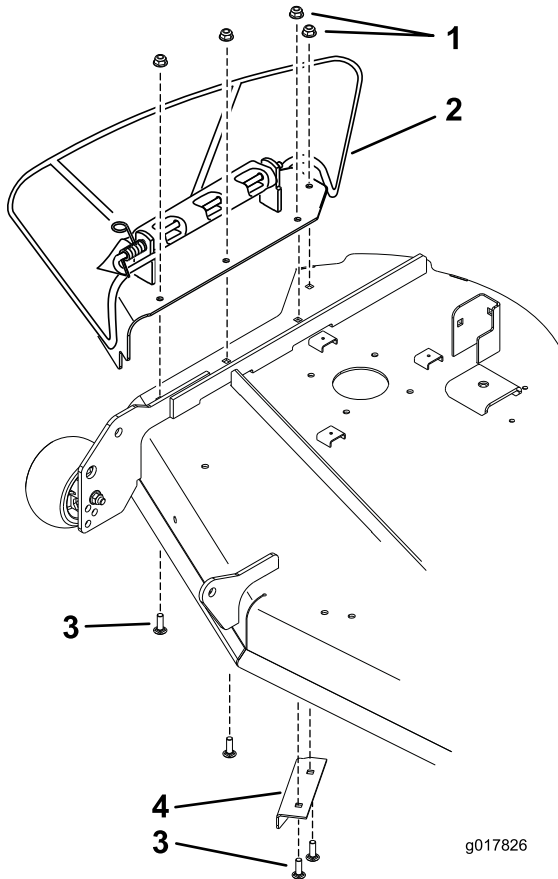

Figure 24
1. Remove the plate assembly that includes the side discharge chute (Figure 24). Save this hardware and assembly.
2. Remove the existing baffle under the right side of the mower deck (Figure 24). Save the baffle and hardware.